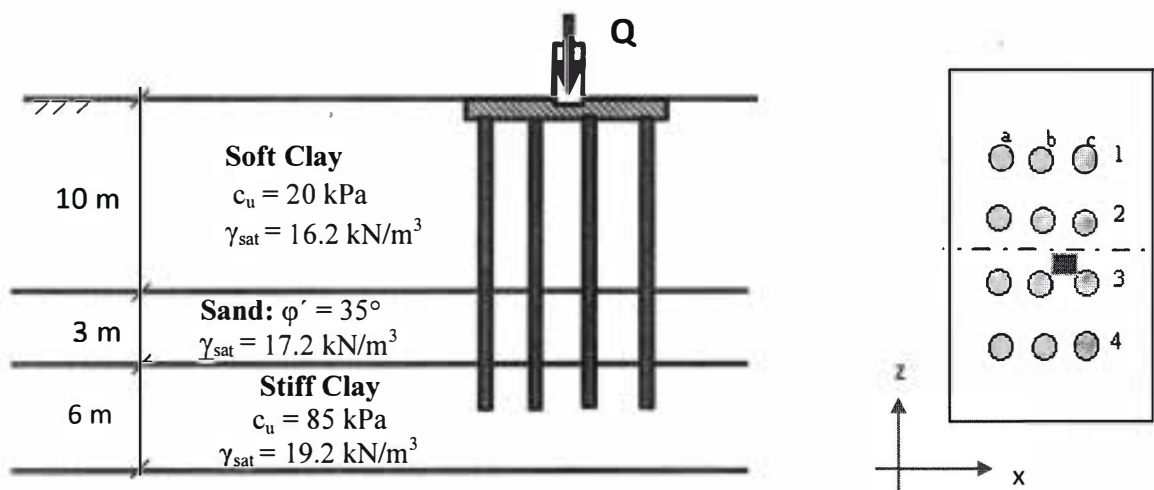

Fig. 3
3. The arrangement of 12 piles (in a group) and the soil profile are shown in Fig. 3. Pile diameter (D) = 1.0 m, Pile Length (L) = 15 m, c/c pile spacing (s) = 0.9 m. Given that $\alpha = 0.45$, $K_s = 0.7 K_0$, $\delta/\phi = 0.75$.
- (i) Calculate the capacity of an individual pile ($D = 1.0 \text{ m}$, $L = 15 \text{ m}$) in the soil profile given in Fig. 3. 8